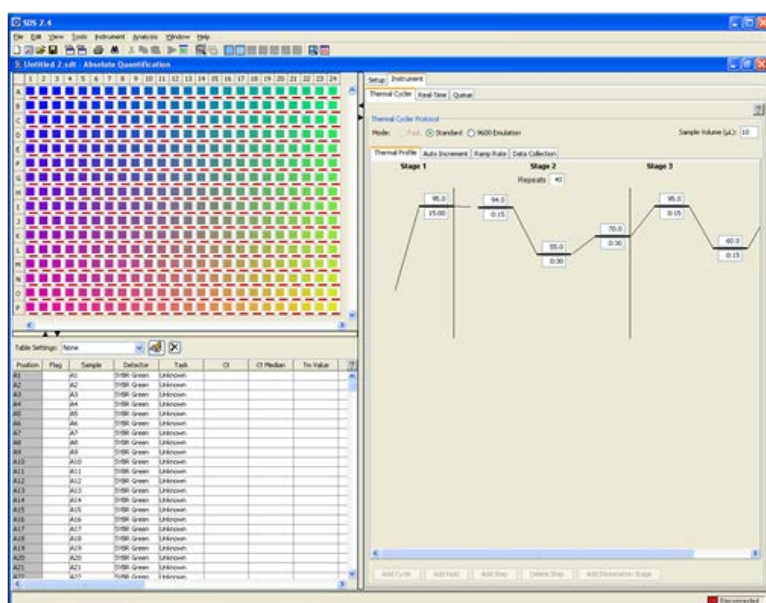

Figure 3. Thermal profile.
- Click the “Instrument” tab, then the “Thermal Cycler” > “Thermal Profile” tab (see Figure 3).